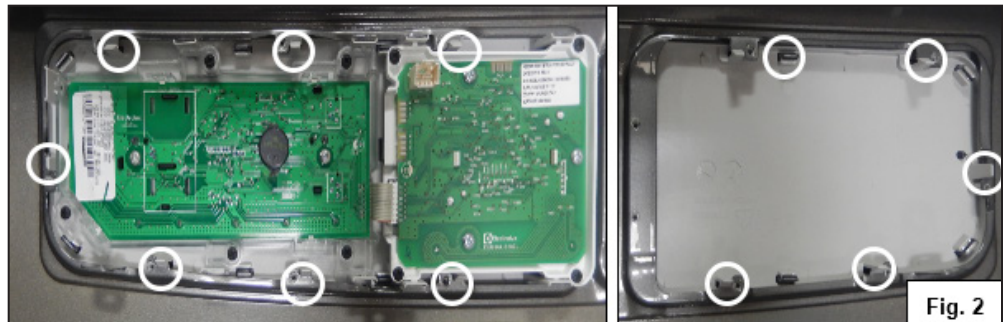
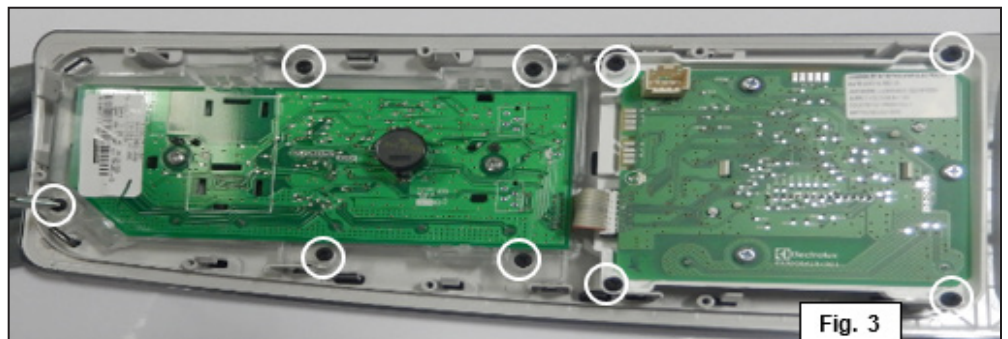

Fig. 2
Fig. 3
Remove the screws of Inlet Thermal Limiter (See Fig. 1) and unplug the connector of Thermal Limiter (See Fig. 2).
Unplug the connectors of Thermostat (See Fig. 1) and remove the screw of High-Limit Thermostat (See Fig. 2).
Remove the screw which is fitted with the Inlet Air Duct (See Fig. 2)
2. Remove the two screws after opening the Door (See Fig. 2)
3. Remove two screws from top of Front Panel (See Fig. 3).
Press the snaps of the Door Switch (See Fig. 1) which is located on the rear side of Front Panel, pull out the switch from another side (See Fig. 2) and unplug the connector from the Door switch (See Fig. 3).
Release all the 12 snaps to remove Control Panel from Front Panel (See Fig. 2).
Remove the 8 screws which are used to mount the User Interface Board Assembly with the Control Panel (See Fig. 3) and unplug the connector of the Cycle Selector Board (See Fig. 4).
Unplug the connector of Drum Light (Fig. 1), remove the 2 screws from the Bracket and rotate Drum Light clockwise as shown in (Fig. 2) to remove it from slot and take it out from inside of the unit (Fig. 3).
After removing Front Panel, remove the Front Bulk Head screws (See Fig. 1), Air Duct screw (See Fig. 1) and Electronic Control Board bracket mounting snaps and screws (See Fig. 2). Remove the wiring clips (See Fig. 3). Lift the Front Bulk Head to release from the snaps which fit with the Side Panels and move the Front Panel Head away from the unit a few inches, as shown (See Fig. 4). Remove wiring clips (See Fig. 5) and remove Front Bulk Head.
Remove the belt from Idler Arm Assembly as shown (See Fig. 1) and slide the belt as shown (See Fig. 2) to remove it from the Dryer.
Remove the Drum from the Dryer (See Fig. 1) and unplug the connectors from the Motor Assembly (See Fig. 2). Remove the screws from the Motor Bracket from Top View of Dryer (See Fig. 3), and screws from Rear Side of the Dryer (See Fig. 4). Then slide the snap of bracket which fits with Base Panel.
Remove the screw from Blower Assembly from Front side of the Dryer (See Fig. 1) and Slide Motor Blower Assembly towards Front side of the Dryer (See Fig. 2).
- Hold tightly the Pulley / Shaft at belt connecting area by wrench and remove fan (Blower) by loosening the Nut (See Fig. 2).
Incline the Dryer using a stable wedge as shown (See Fig. 1). Then remove the Leveling Leg with the help of Wrench (See Fig. 2). Similarly, remove the Rear Side Leveling Leg by inclining the Dryer in other direction.